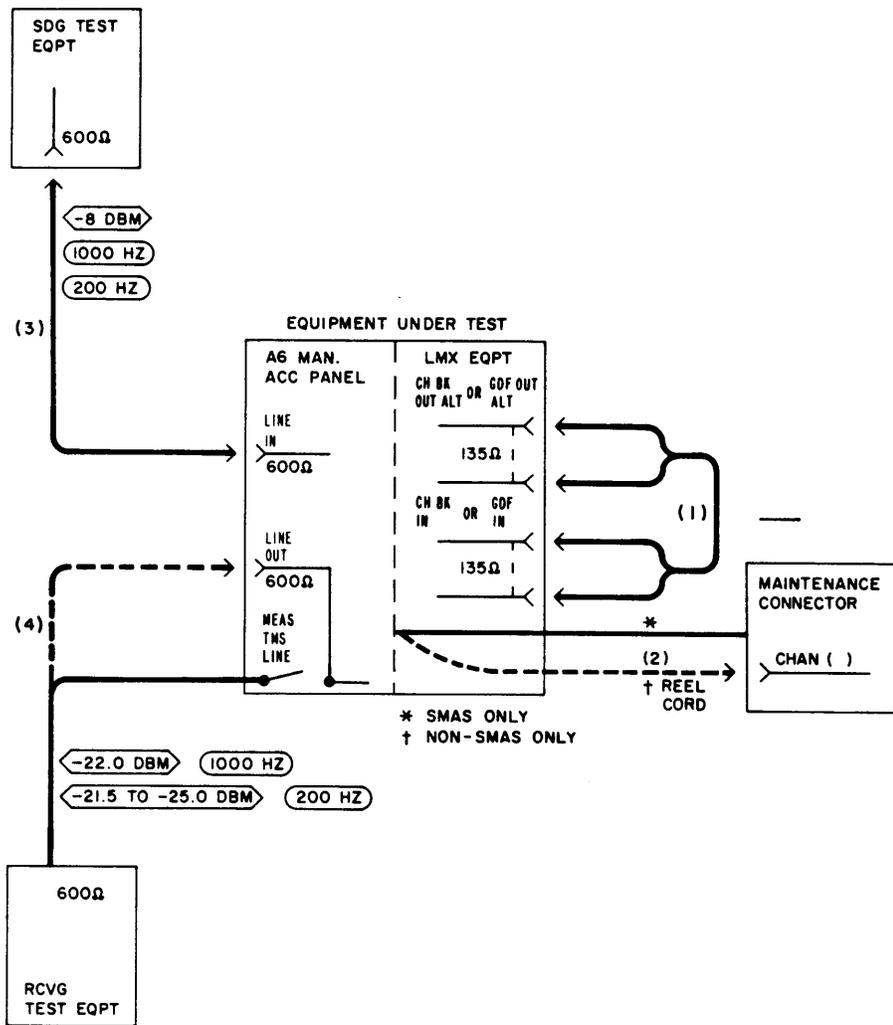

Fig. 18—Patching Diagram—Frequency Response Test—Unequal-Level Looping
3	At the LMX equipment, connect the CH BK OUT ALT (LMX-2) or GDF OUT ALT (LMX-3) jack to the CH BK IN (LMX-2) or GDF IN (LMX-3) jack [patch (1), Fig. 18].
5b†	Connect the retractable cord (on the 22AU MAP) to the CHAN BANK connector (on the maintenance connector) for Channel 1 [patch (2), Fig. 18].
7	Connect the STE to the LINE IN jack [patch (3), Fig. 18].
8	Momentarily operate the MEAS TMS LINE/DROP switch to the LINE position. Note: If the T&NMS is not available via the MEAS TMS LINE switch, connect the RTE to the LINE OUT jack [patch (4), Fig. 18].
13*	Remove patch (3), Fig. 18 [and patch (4), if used].
14†	Remove the retractable cord (on the 22AU MAP) from the channel under test [patch (2), Fig. 18].
17	At the LMX equipment, remove patch (1), Fig. 18. Note: If the channel bank under test is equipped for CFA, reinsert the CFA unit.